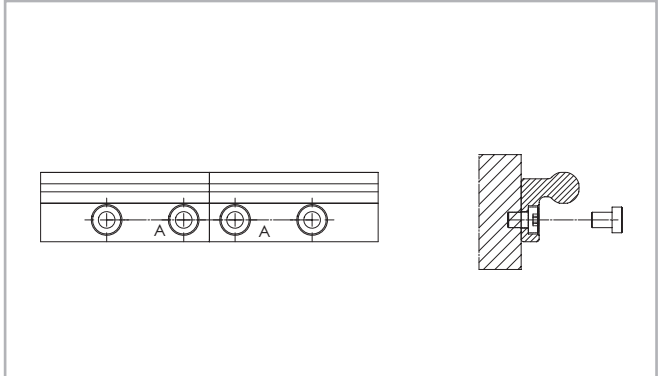

Fig. 27
- (1) Fix the individual rails on the mounting surface by tightening all screws except for each last one on the rail joint.
- (2) Install the end fixing screws without tightening them (see fig. 27).